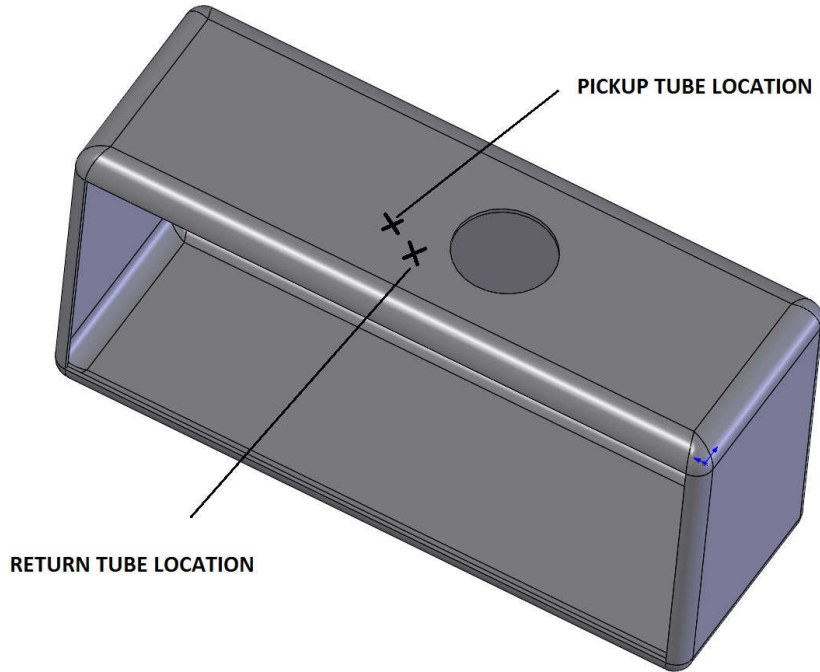

FIGURE 1-1
1. Before removing the fuel tank from the vehicle, mark the tank where there is adequate room between it and the bed. These locations will be used to determine the best spot for the feed and return tubes. Remove the fuel tank from the vehicle and place it on the ground. Remove the factory fuel level sending unit and set aside (careful not to damage it and note the orientation of the float arm). Choose a location that's close to the factory tank opening because you have to reach the backside to install a nut. Before drilling your holes make sure the factory fuel level arm will not come in contact with the Aeromotive baffled pickup assembly (**Location marks are examples only**). Failure to do so will result in the gas gauge not working. **FIGURE 1-1**